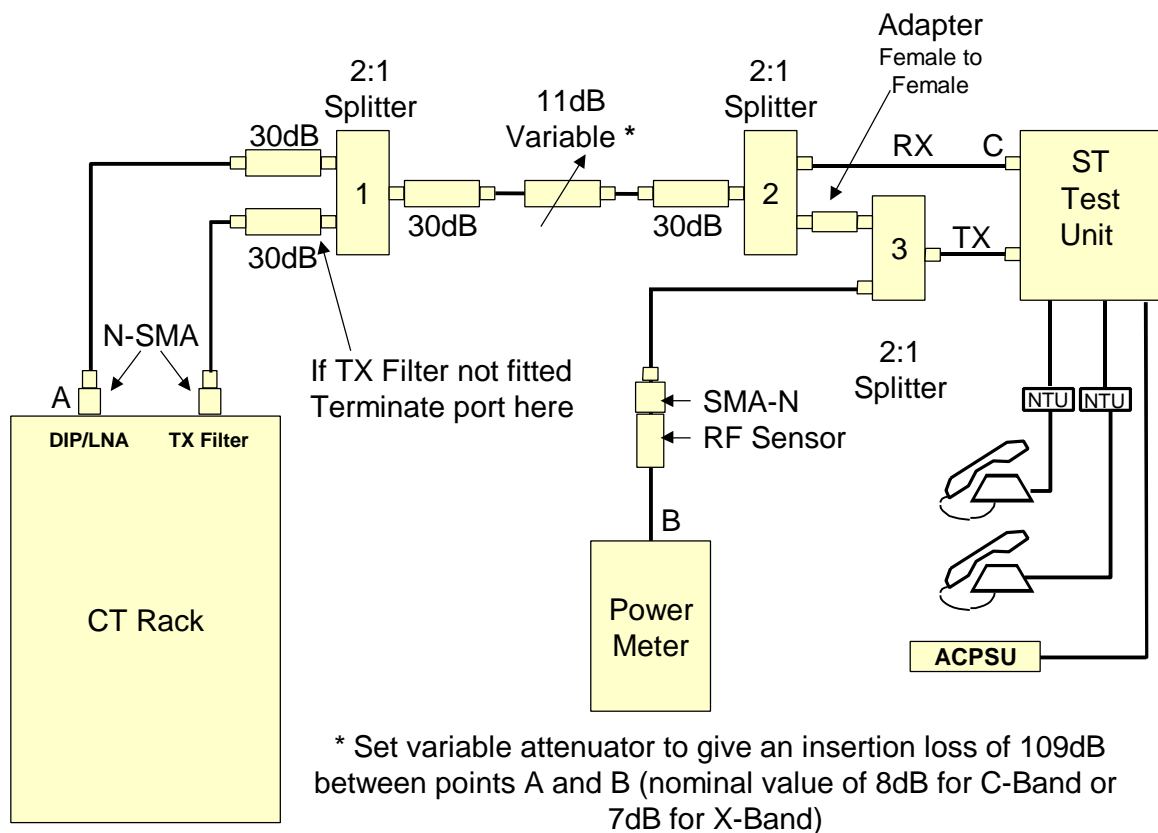

Figure 7-3. Test Set-Up Modem Shelves (2.0-2.3GHz and 2.3-2.5GHz Band)
- c) If measuring the power output on shelf 3 and/or 4 connect the Power Meter to the power meter to the N-Type connector on the TX filter card as shown in Figure 7-3.
- Connect the cables and accessories to the CT rack for Modem Shelf setting up and functionality testing as detailed in Figure 7-3. Set the 0-11dB variable attenuator to a nominal value (8dB for 2.0 - 2.3GHz band systems or 7dB for 2.3 - 2.5GHz band systems, the insertion loss of the test circuit should be 109dB between point a and b in Figure 7-3). In practice the setting of the attenuator will be a few dBs less than the nominal level to account for the actual cable, connector and splitter loss. Due to the microwave frequencies involved the commissioning items need to be calibrated for the channel frequencies to be used.
Note: If the TX Filter is not fitted terminate the port of Splitter A as shown in Figure 7-3.
12. Adjust the gain control voltage on Sitespan to achieve a RF Power level of nominally +8dBm for 2.0 - 2.3GHz Band or +7dBm for 2.3 - 2.5GHz BAND-Band on the RF Power meter. The exact reading should be 11dBm for 2.0 - 2.3GHz Band or 10dBm for 2.3 - 2.5GHZ BAND Band- the measured loss from point C to point B in Figure 7-3. Record the voltage and power level on the Test Result Sheet.